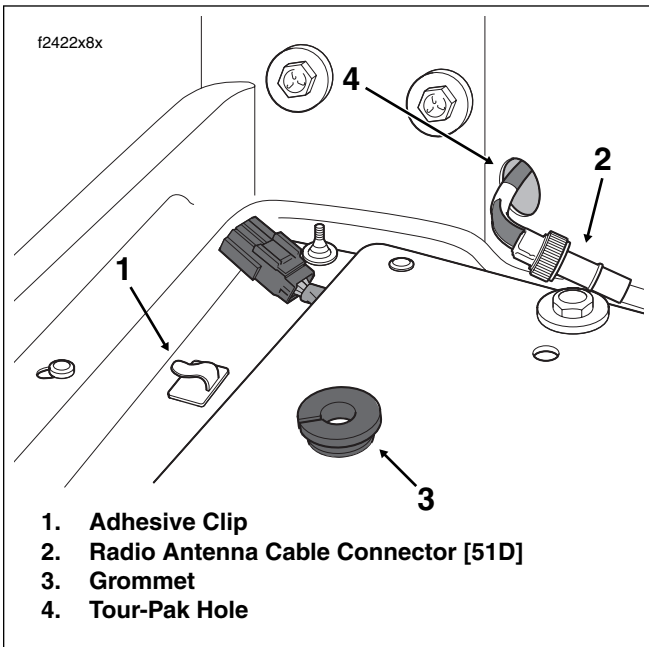

Figure 8-182. Feed Main Harness Thru Tour-Pak Hole
14. Pull Tour-Pak lights and radio antenna cable connectors through hole at front of Tour-Pak. See Figure 8-182.